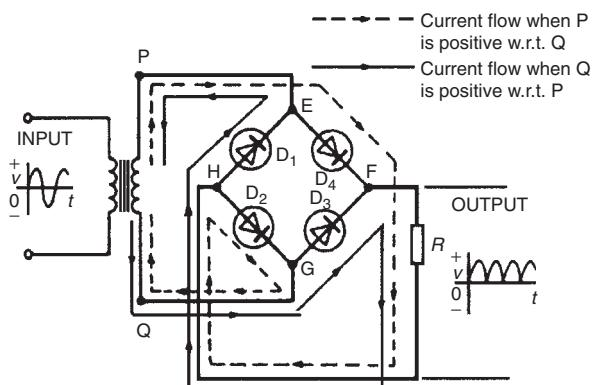

Figure 14.17
Four diodes may be used in a **bridge rectifier** circuit, as shown in Fig. 14.17 to obtain **full-wave rectification**. (Note, the term 'bridge' means a network of four elements connected to form a square, the input being applied to two opposite corners and the output being
*Following the broken line in Fig. 14.17:*
*Following the full line in Fig. 14.17:*